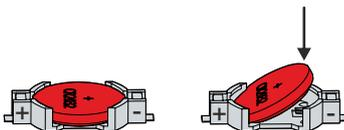

Fig. 25: C6015_Battery change
⇒ The battery is now in an inclined position (see Fig. 25).
5. Push the protruding side of the battery into the battery holder (see Fig. 25).